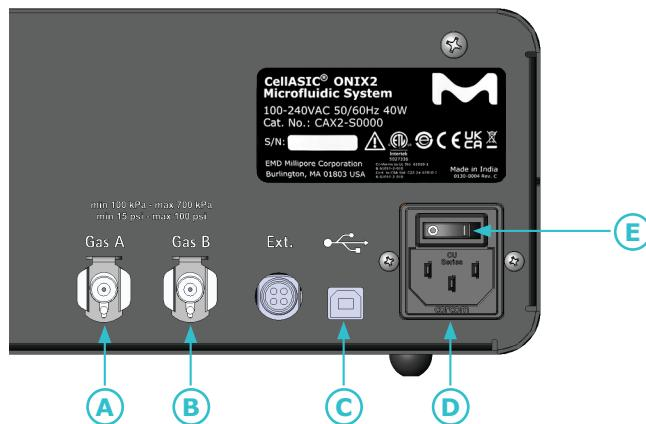

Figure 4. CellASIC® ONIX2 Microfluidic System back panel
2. Connect the power cord from a grounded electrical outlet to the system (D in Figure 4). The internal power supply accepts any voltage source between 100 and 240 VAC. Connect the USB cable from the computer to the USB port (C in Figure 4) on the back panel of the system.
3. If gas environmental control is desired, connect one or two premixed gas tanks to the back of the system into the ports I labelled Gas A (**A** in Figure 4) and Gas B (**B** in Figure 4) using the quick-connect fittings provided (Colder Products Co. 4 mm valved coupling insert part no. PMCD20025). The premixed gas input pressure must be regulated between 100 kPa and 700 kPa (15 psi and 100 psi). For easy setup, small premixed gas cylinders can be used (103 L or 112 L gas cylinders with a C10 connection). These will require the CellASIC® ONIX2 Premixed Gas Regulator accessory, cat. no. CAX2-ABR00.
6. Turn on the system power using the switch on the back panel above the power cord entry (E in Figure 4). The green Ready indicator (G in Figure 8) will light up when the unit is ready for operation.